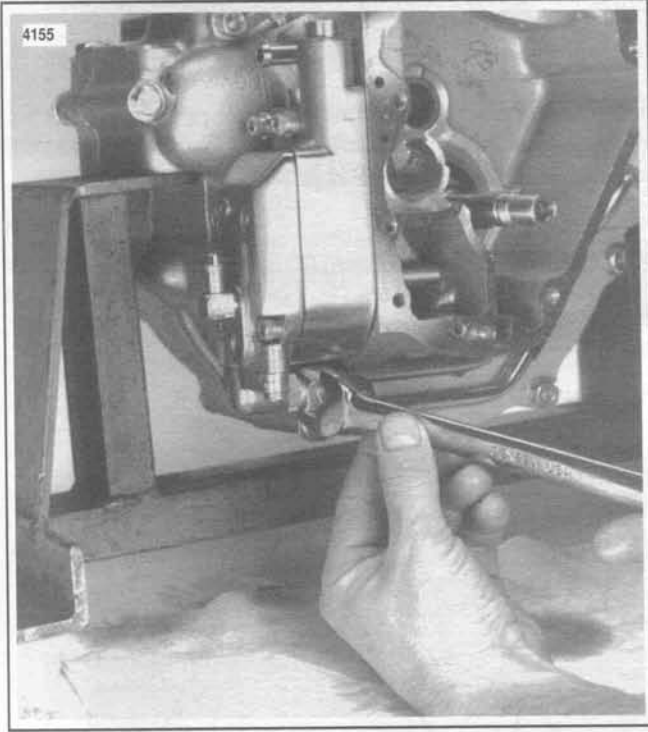

Figure 3-43. Disconnect Oil Lines
1. See Figure 3-43. Disconnect oil lines from pump. See OIL FILTER MOUNT.